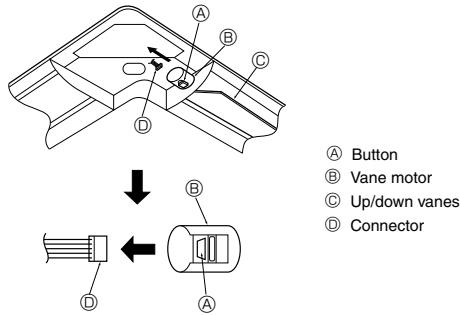

Fig. 9-11
9.7. Locking the up/down airflow direction (Fig. 9-11)